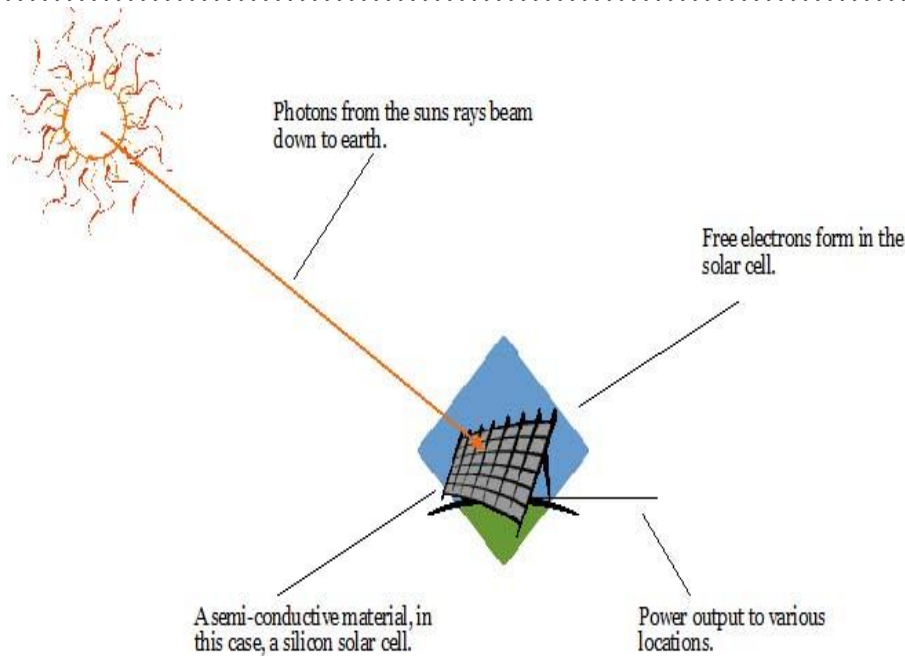

Figure 3.1: Solar Photovoltaic flow
Well, photo simply means light. It has come from a Greek word phos. Voltaic means producing an electric current. This word has come from the name of Alessandro Volta. He worked on electricity during the seventeenth century. Thus Photovoltaic (PV) in a combined way means producing electricity under light (sunlight in this case). A solar cell is a device which does this simple trick. The photons or energy packets as these are known energise cell material i.e. a semiconductor made generally of silicon. Figure 3.1 illustrates this simple looking but highly complex process of solar energy conversion into some useful electricity via this device only.